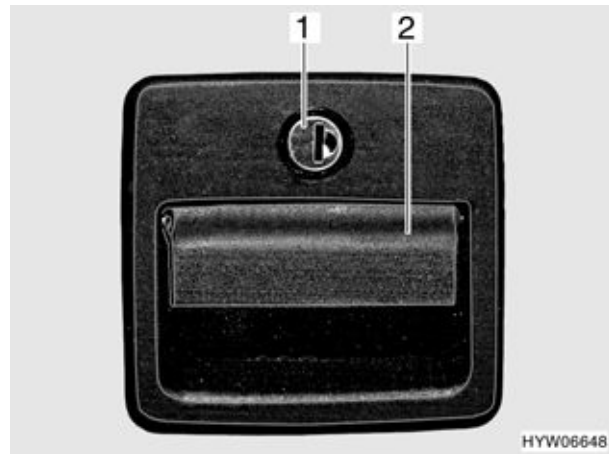

Fig. 30 Flap lock (variant 2)
- Insert key into locking cylinder (Fig. 30,1) and turn in a clockwise direction until the flap lock is unlatched.
- Pull on the lock handle (Fig. 30,2). The external flap is open.
- Insert key into locking cylinder (Fig. 30,1) and turn it in an anticlockwise direction. The flap lock is locked.